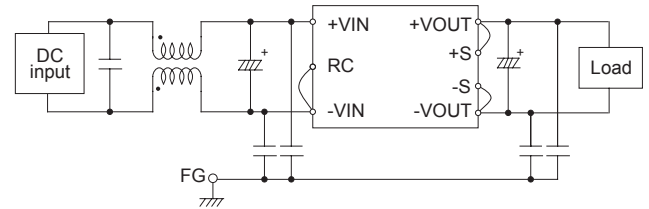

Fig.3.1 Recommended external input filter
(3) Recommendation for noise-filter
- Install an external input filter as shown in Fig.3.1 in order to reduce conducted noise. For details refer to our website technical data.